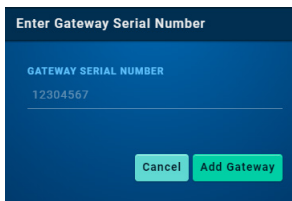
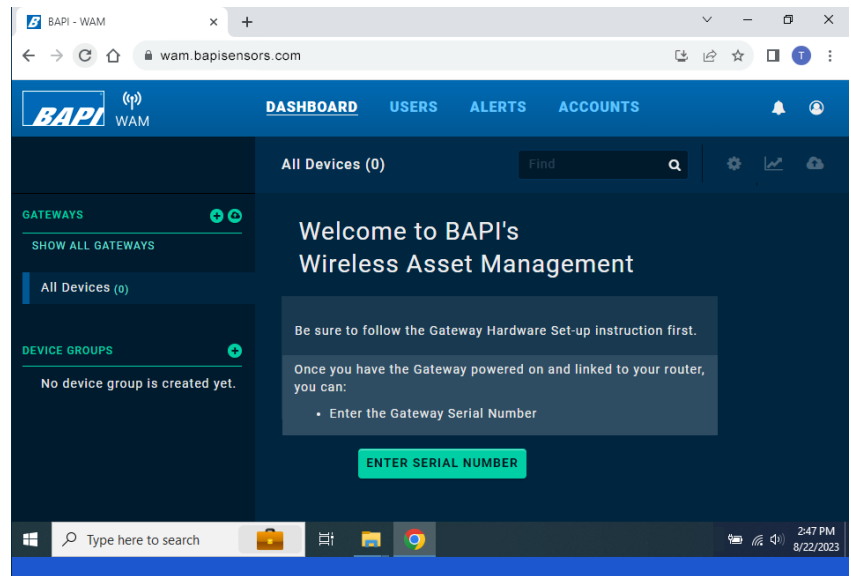

Fig. 7: Enter Gateway Serial Number Window
Fig. 6: WAM Website Initial Screen
- Click the “Enter Serial Number” link, or click on the green “+” icon across from the word “Gateway” in the left menu bar (Fig 6), to open the “Enter Gateway Serial Number” window (Fig 7).